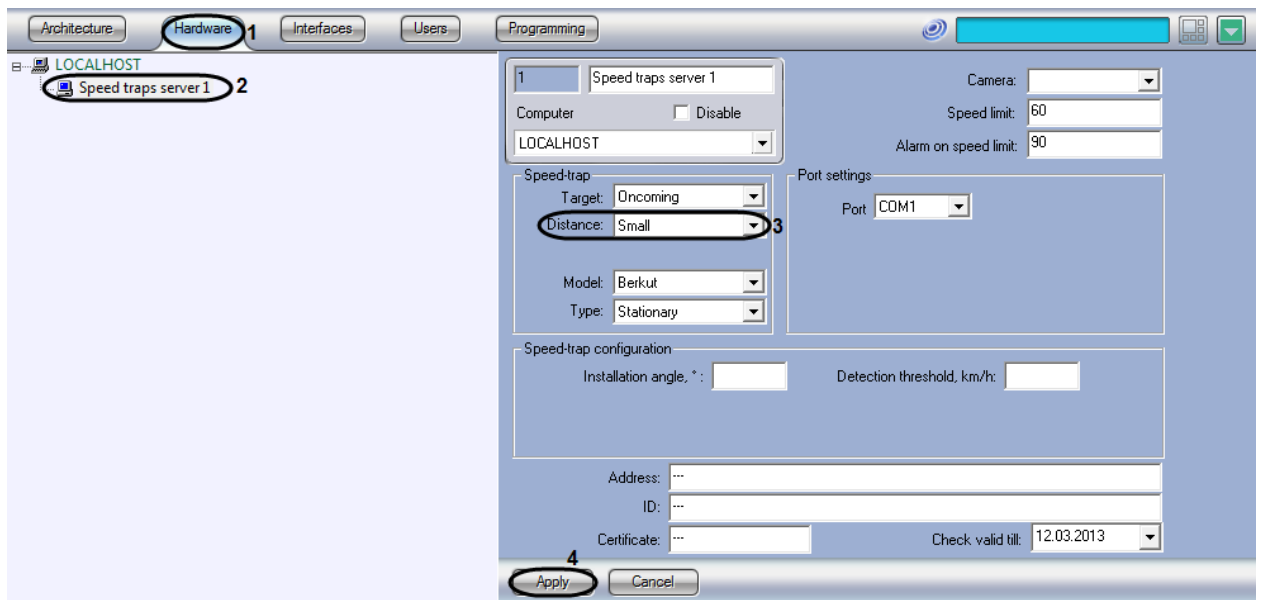

Fig. 7.3—8 Selecting the vehicle speed detection distance
2. In the object tree on the left side of the Hardware tab, select the Speed-trap server object representing the Radar module to be set up. The settings panel of the selected object will open on the right side of the window (see Fig. 7.3—8).